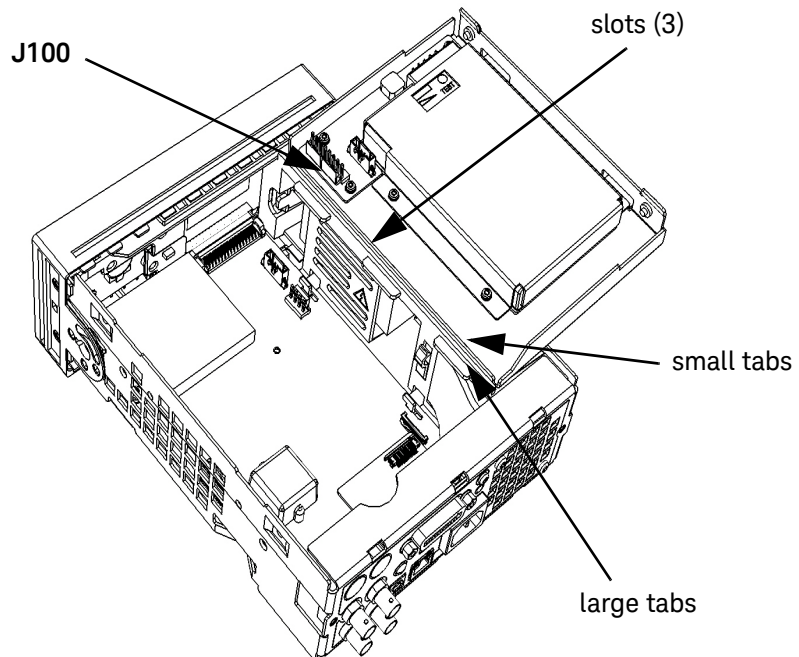

Figure 2-12 Battery folded in the service position
- Lift up carefully on the two side-overlapping tabs on the left side of the battery assembly and separate the assembly from the three large tabs holding it on the right side. Lay the assembly on its back to the right side of the chassis and place the three small tabs (on the back side of the three large tabs) into the three slots on the assembly deck. (See **Figure 2-12.**)